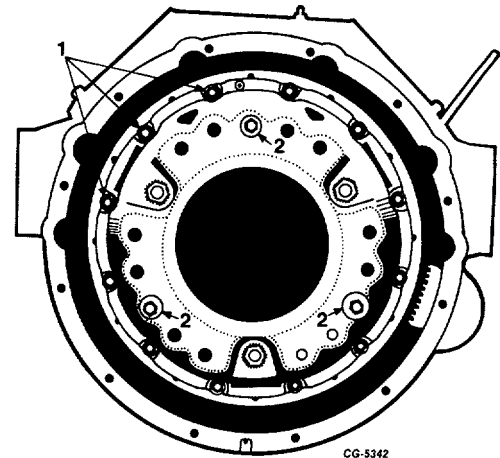

Fig. 49 Clutch Removal
54. The clutch plate should be compressed with three bolts "A" (3/8" 16 x 2") prior to removing the mounting capscrews, Figure 49. This is done to prevent distortion of the clutch cover. Then loosen the clutch back plate-to flywheel retaining capscrews and remove the clutch assembly. Remove main drive gear pilot bearing.